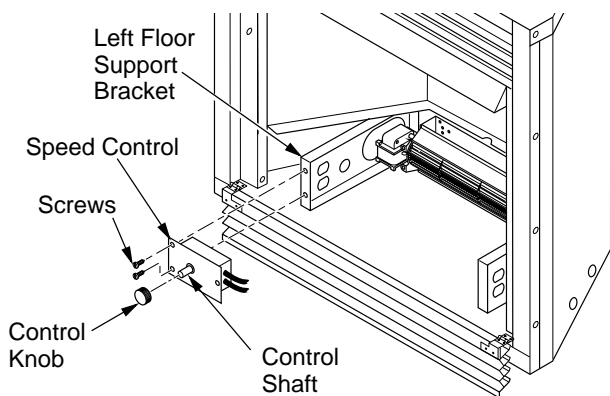

Figure 19 - Attaching Speed Control to Firebox
9. Mount the speed control on the front leg of the left floor support bracket using 2 screws provided (see Figure 19). **Note:** Some remote ready fireplace models have the gas control located near the left floor support bracket. For these models, mount the blower speed control onto the right floor support bracket.